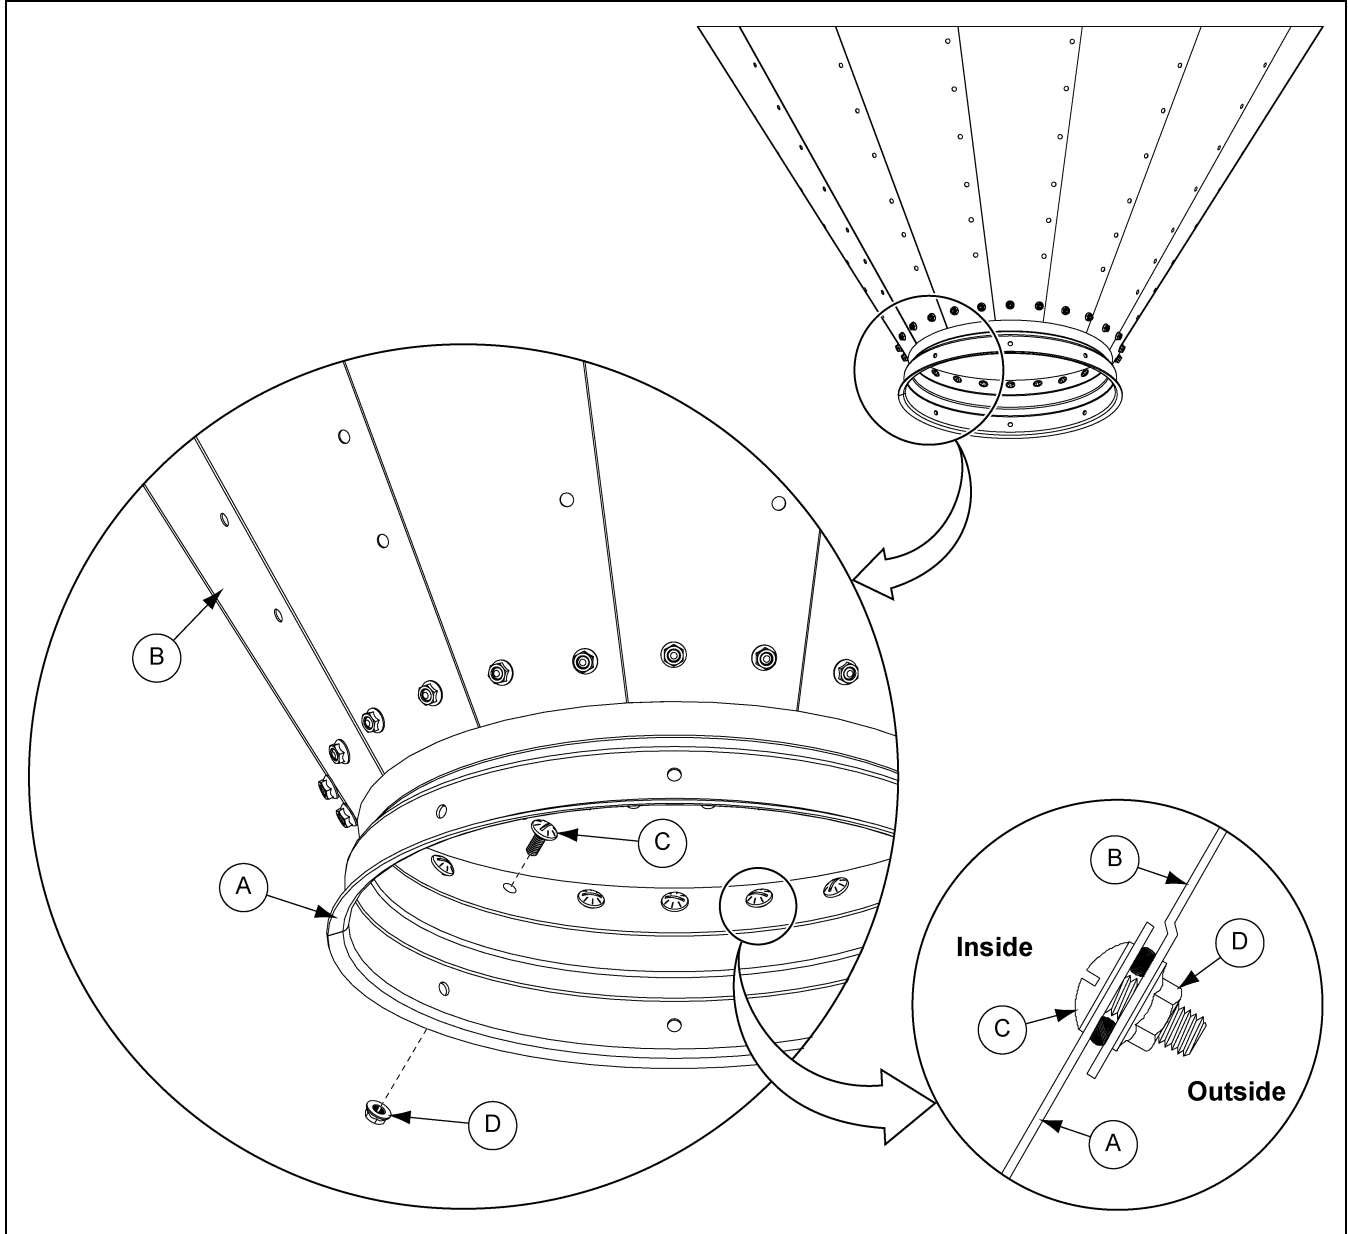

Figure 11L Attaching the Collar to the Hopper Panel
1. Install the top of the collar (A) to the hopper panels (B) using 5/16" x 1" truss head bolts (C) and 5/16" flange nuts (D). (*See Figure 11L.*)